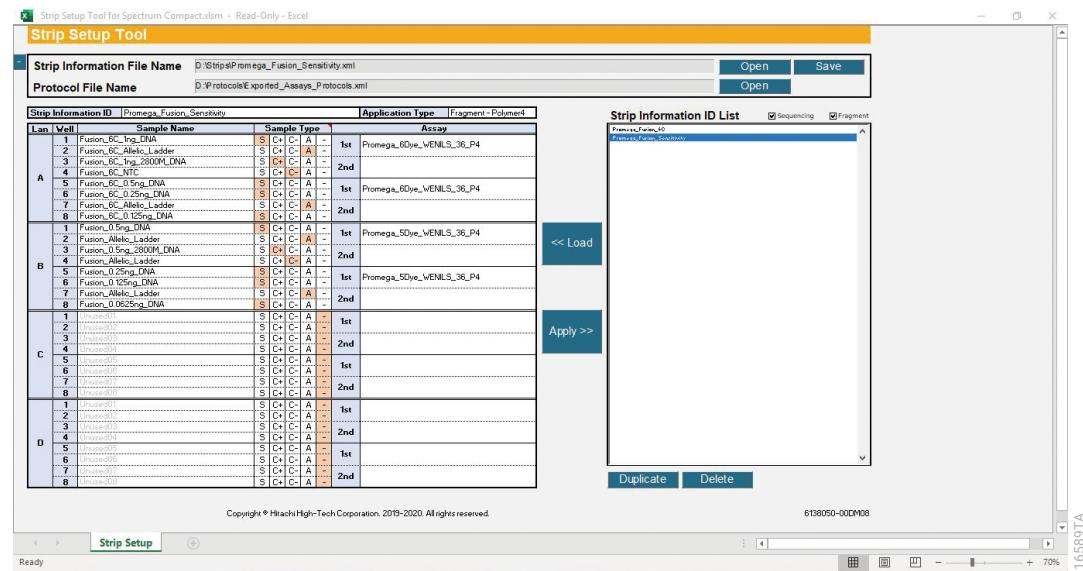

Figure 255. Strip Setup Tool for Spectrum Compact with new strip in Strip Information File Name.
- An asterisk appears in front of the newly created strip file name in the Strip Information ID List prior to saving the strip information as a .xml file. After saving as a .xml file, the asterisk disappears (Figure 255).
8. The name and location of the new strip will now appear in the Strip Information File Name cell (Figure 255).